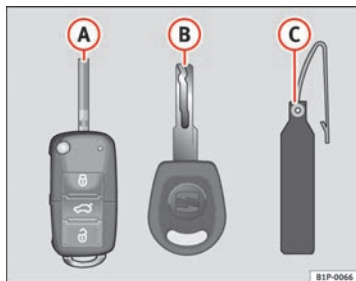

Fig. 44 Set of keys
- a remote control key => fig. 44 **A**